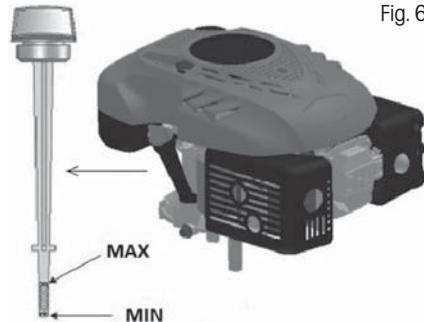

Fig. 6
2. Pull the cap with the oil dipstick out of the oil refill hole (Fig. 6).
4. The oil level must be between the upper (MAX) and lower (MIN) limit (Fig. 6).